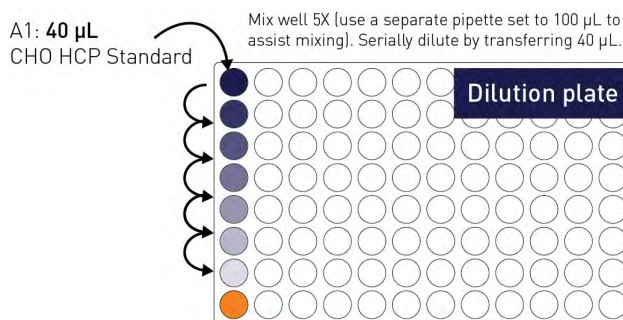

Figure 2 Serially dilute the CHO HCP standard from SD1 to SD7 (tubes) or A1 to G1 (plate format, shown)
2. Serially dilute the CHO HCP standard from SD1 to SD7 (tubes) or A1 to G1 (plate wells, shown in Figure 2).